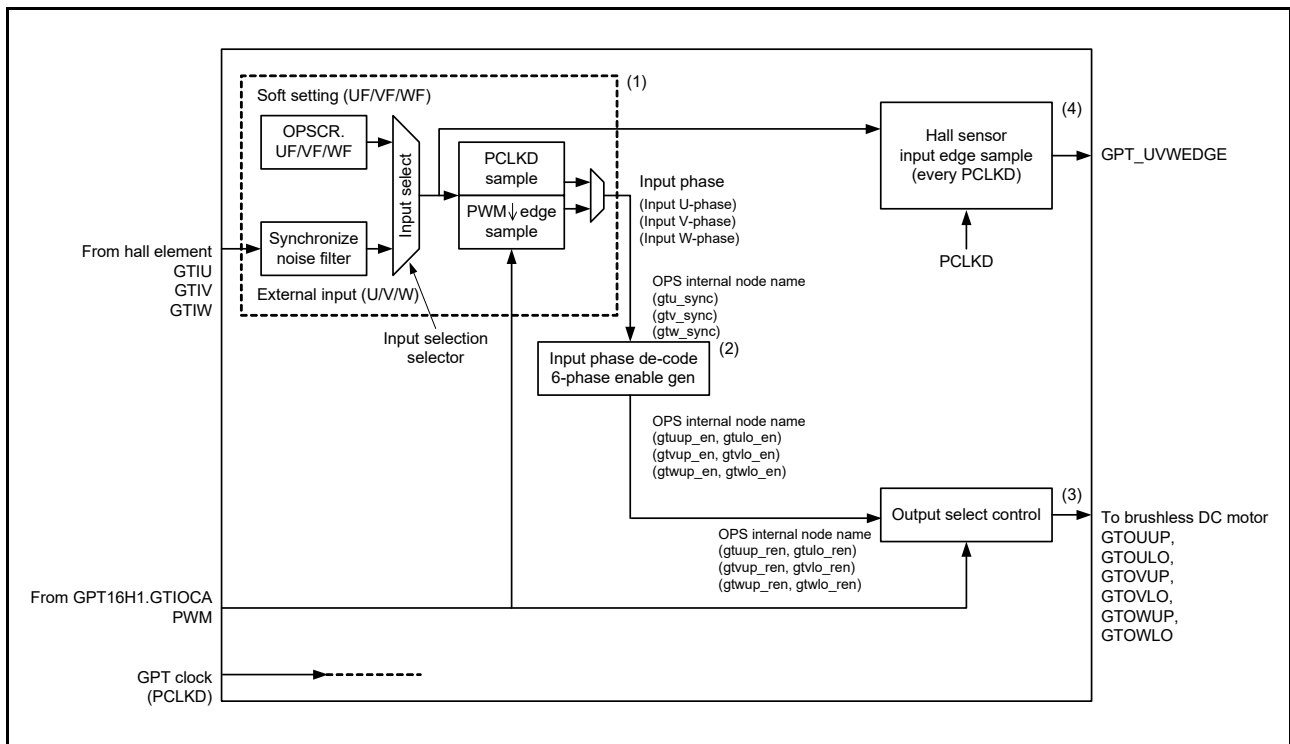

Figure 20.77 GPT\_OPS control flow conceptual diagram
Figure 20.77 shows the GPT\_OPS control flow conceptual diagram.
In the GPT\_ OPS control flow conceptual diagram shown in Figure 20.77, (1) is a selection of input phase from the software settings and external input by the OPSCR.FB bit.
In the GPT\_OPS control flow conceptual diagram shown in Figure 20.77, (2) enables the 6-phase signals by decoding the input phase selected by the OPSCR.FB bit. The 6-phase enable signal is used for internal processing of GPT\_OPS.
In the GPT\_OPS control flow conceptual diagram in Figure 20.77, (3) presents the selection of the output waveform by setting the OPSCR register bit.
In the GPT\_ OPS control flow conceptual diagram shown in Figure 20.77, (4) outputs the hall sensor input signal edge to the event link controller.